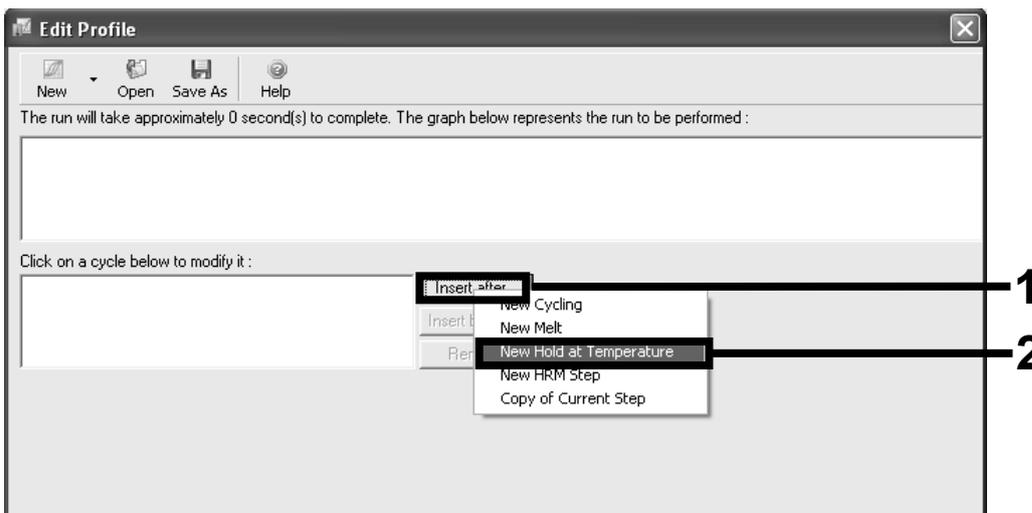

Figure 4. Initial incubation step at 95°C.
Initial activation of the hot-start enzyme	Figures 4, 5
- Click the "Insert after" button and select *New Hold at Temperature* (Figure 4).